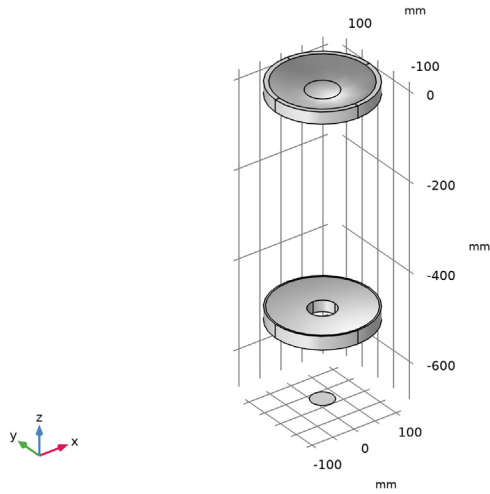

Figure 2: The Gregory-Maksutov telescope geometry sequence.
When constructing a geometry in COMSOL to be used in a Geometrical Optics ray trace, it is important to appreciate that the order in which optical elements are placed in a geometry sequence does not affect the results of the trace. However, it is convenient to place optical elements relative to one another. This can be achieved by taking one of the built-in work planes in a Part Instance as the reference for the placement of the next Part Instance. The resulting Gregory–Maksutov telescope geometry sequence is shown in Figure 2. Detailed instructions for creating the geometry can be found in Appendix — Geometry Instructions.
- 8 Click the  **Orthographic Projection** button in the **Graphics** toolbar. Compare the resulting geometry to Figure 2.